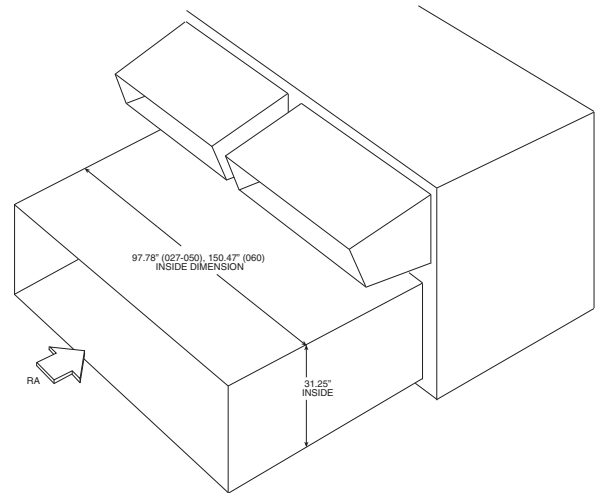

Fig. 4 — Side Return Air Conversion
4. Using a return duct with a minimum 3/4 in. flange, connect the return duct to the side of the unit around the openings in the side of the unit. Use a single duct to cover both openings. Ensure the ductwork is properly sealed against the side of the unit. Use a flex connection to minimize vibration. See Fig. 4 for horizontal return duct dimension for field converted units.